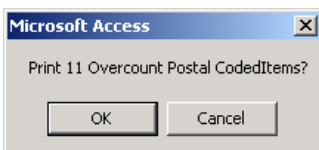

Figure 3-15
8. Click **OK** to begin printing the container labels. When the labels are printed the following message appears (Figure 3-15):